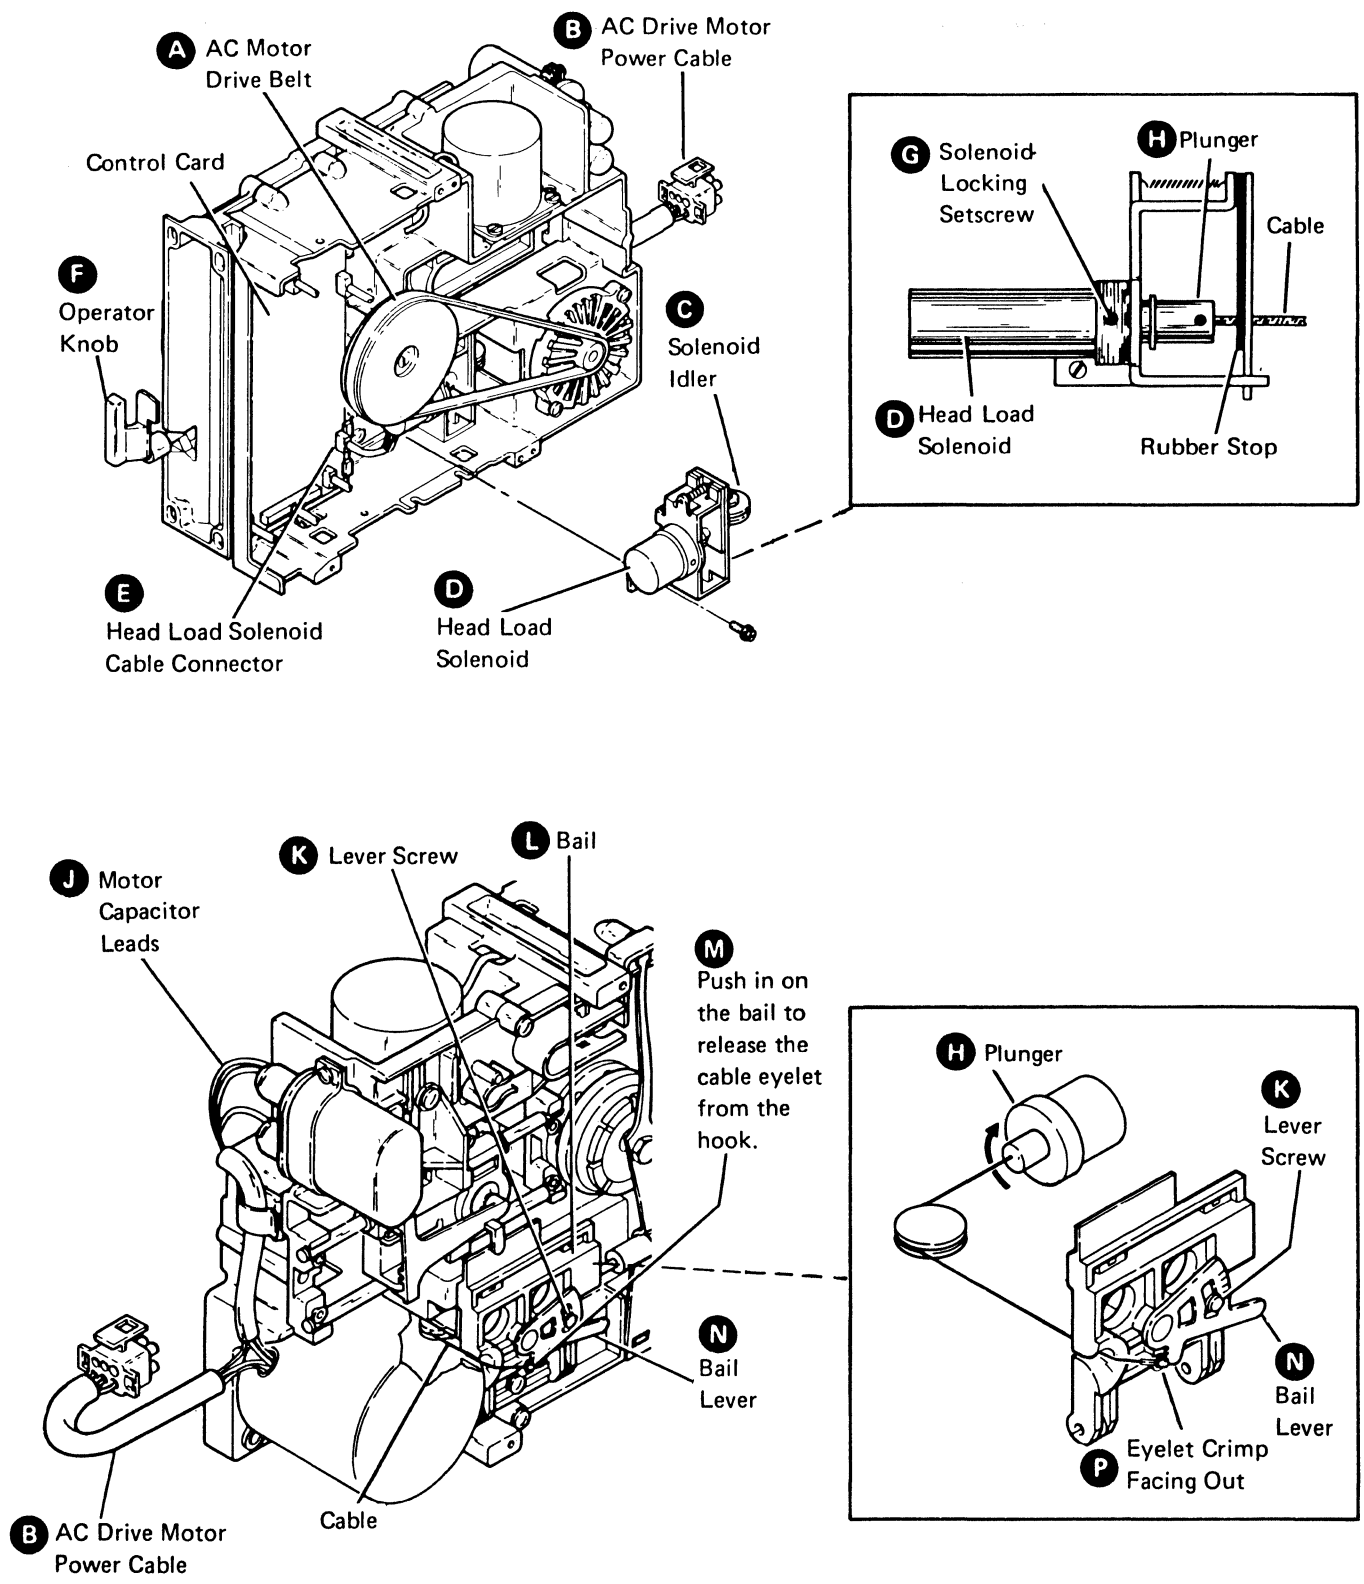

Figure E-30. Solenoid and Idler Removal
E.3.3.7 Solenoid and Idler Removal (Figure E-30)
E.3.3.8 Solenoid and Idler Replacement (Figure E-30)